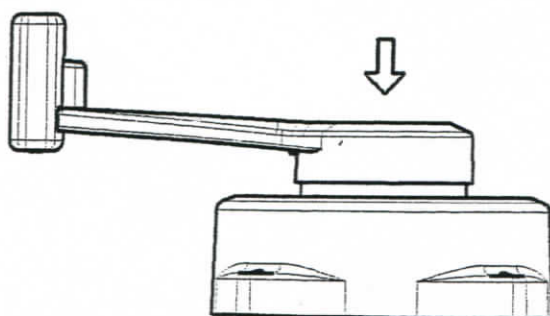
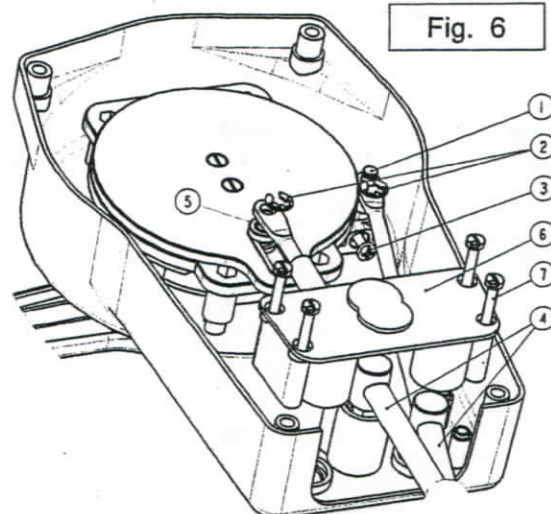

Fig. 3
Fig. 6
2. In order to invert the throttle direction (from traction to compression or vice-versa), insert the lever in its hub. Apply some pressure on the lever (see Fig. 3) so as to position the gear in neutral and rotate it through 180° (to the next release point).
1. Insert the lever (5) in the hub, positioning the safety-lock in the stop ring key (see Fig. 3).
1. Insert the reverser stud (1) in the control cable rod eyelet (see Fig. 6) and fix it with the stop-ring (2). The cable shall be positioned in the "E" or "F" seat (see Fig. 3), according to the direction of installation of the box (see Fig. 7).
Insert the reverser stud in the slot (see Fig. 6) and place it in position "C" (inward) or "D" (outward) depending on the necessary stroke (see Fig. 7).
1. Insert the cable in the throttle stud (5) and fix it with the stop-ring (2) (see Fig. 6).
2. Insert the cable lock (6), making sure that the cables barrels are properly positioned in their seats. Fix the cable lock with n°. 4 M4x40 screws (7) (see Fig. 6)